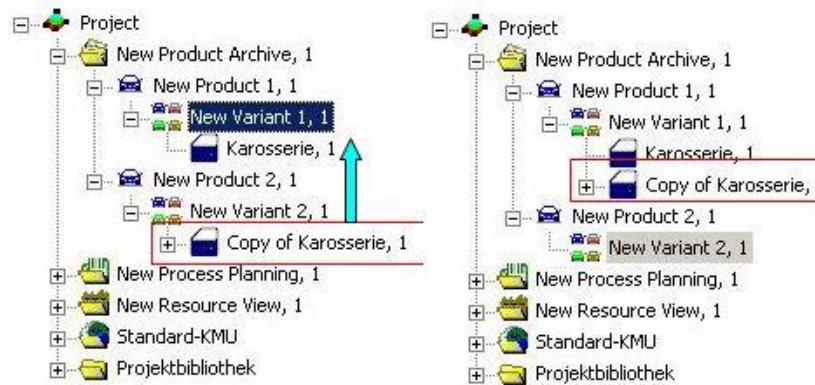

Figure 21: Moving by Dragging and Dropping Objects
- 6) Confirm the message with **OK**. The message shows that a move process is to be executed. *Please refer to the Figure 21 for copying of the Karosserie.*